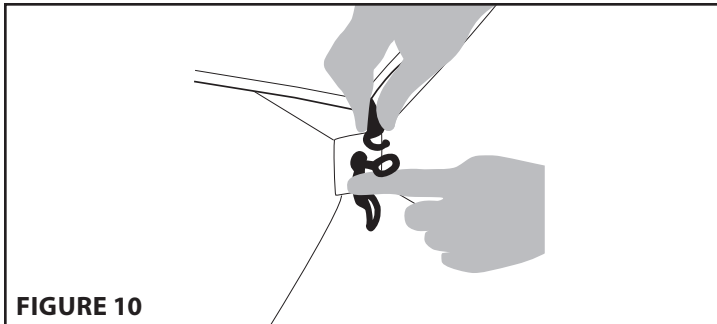

FIGURE 10
5. Outside the tent, fasten the plastic hook to the eye-bolt of the back panel. [**SEE FIGURE 10**]